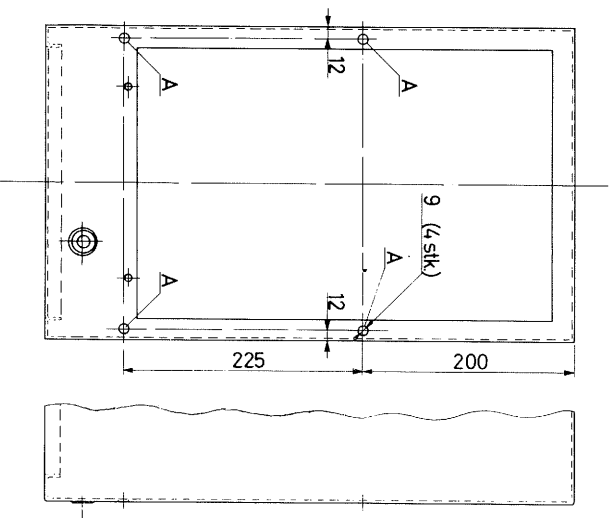

Fig. 6
1. Drill the 4 9 mm holes marked "A" through the top of the RGB cubicle. See drawing no. 42688, Fig. 6.